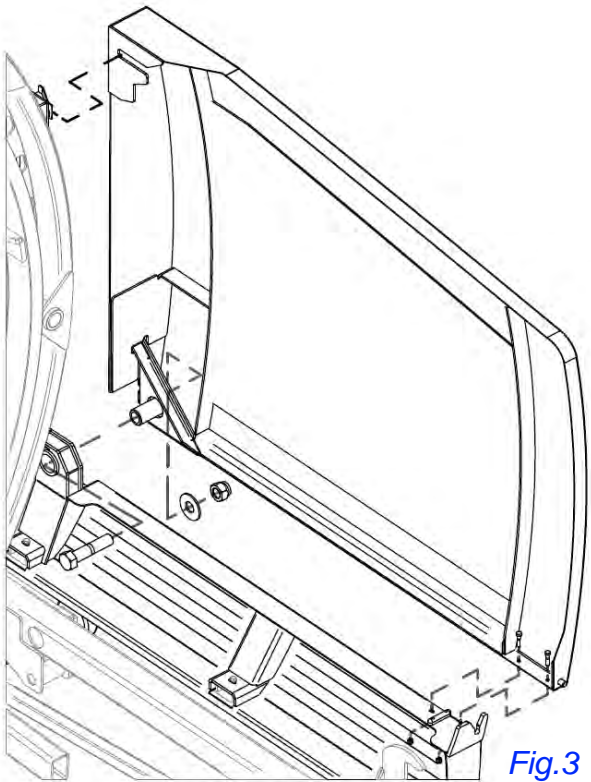

Fig. 3
9. Install right maintenance safety guard by bolting at pivot point. Do not over tighten. See Fig. 3.